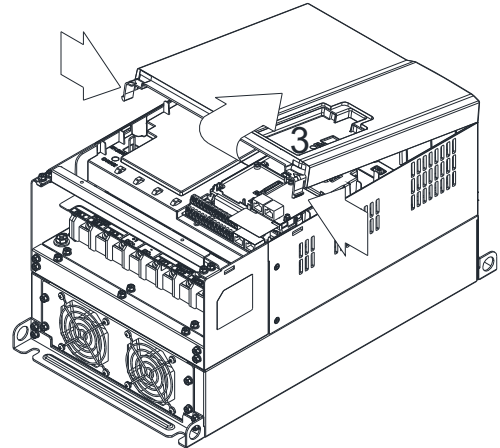

Figure 2
2. (Figure 2) Loosen screw 3, press the tabs on the right and the left to remove the cover. Screw 3 Torque: 6–8 kg-cm / [5.2–6.9 lb-in.] / [0.6–0.8 Nm]